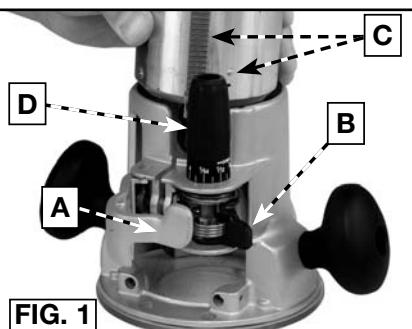

FIG. 1
- (a) Open the clamp (A) Fig. 1.
- (b) Push the lever (B) Fig. 1 toward the power unit.
- Open the clamp (A) Fig. 1 and set motor in the base.
- Align the rack and pin (C) Fig. 1 of the motor with the grooves in the base. Pull the lever (B) Fig. 1, and lower the motor into the base.
- Close the clamp (A).
- Align the rack and pin (C) Fig. 1 of the motor with the grooves in the base. Lower the motor into the base.